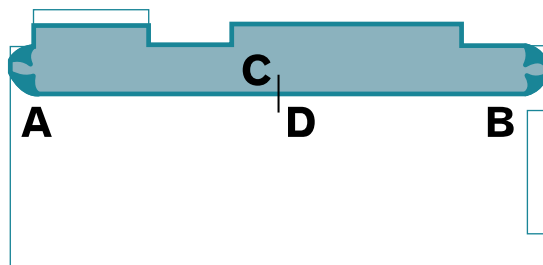

Figure 3 Marking the position
- > When satisfied that the fit on the first edge is correct, use a pencil to trace the opposite edge onto the subfloor (line A-B in fig. 3).
- > In the centre of the room, draw a line on both the sheet and subfloor square to the main axis of the sheet (line C-D in fig. 3).